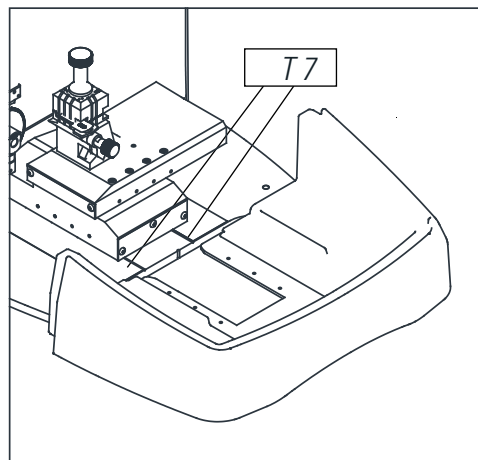

FIG. 23
- 3) Re-introduce the tray taking it to the bottom following the two lines (T7) marked in black on the chassis (Fig. 23)